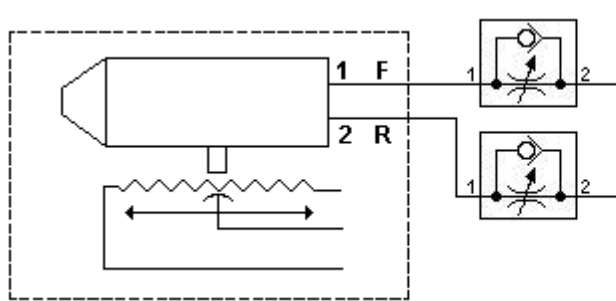

Fig. 4a.
6. Drilling, countersinking or reaming: The units rapid advance and retraction movements should not exceed a speed of 100 mm/sec. (0,33 fps) to ensure smooth operation and proper signal processing. This is particularly important when the unit is equipped with a linear transducer. Regulation of the speed is possible by fitting the hoses to the units feed cylinder, Port 1 and 2, with throttle-check valves. Place the throttle-check valves as close as possible to the unit. See Fig. 4a.